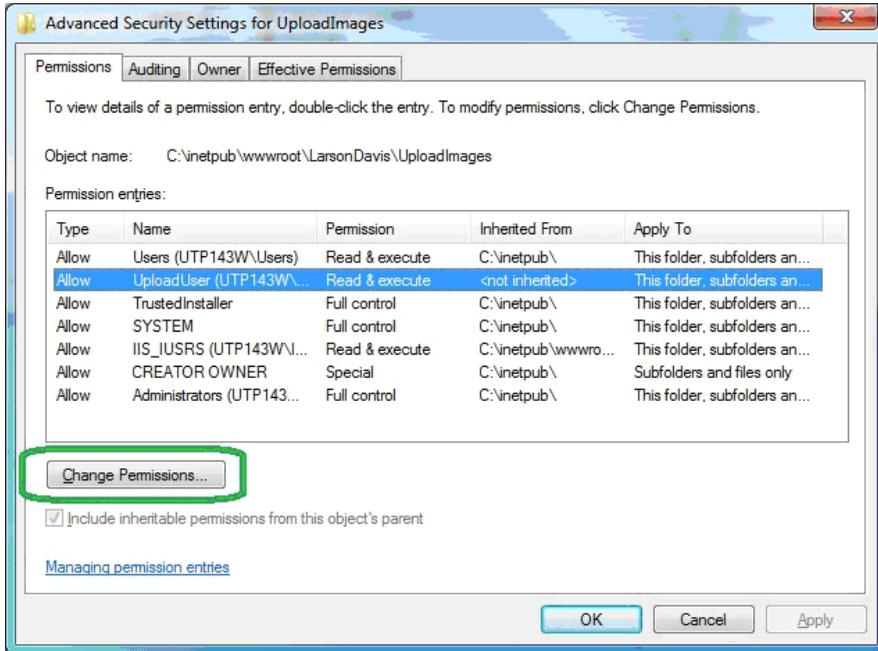

FIGURE 2-29 Advanced Security Settings for UploadImages - Change Permissions
Step 32 Click the user account name, or the default **UploadUser**, if applicable, as shown in FIGURE 2-29.